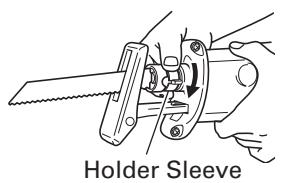

Fig. 6
- (4) Pull the holder sleeve back slightly in the direction of the arrow mark shown in Fig. 6 (in the direction opposite to the arrow marked on the holder sleeve). When you do this, the spring force will return the holder sleeve to the correct position automatically. There is no need to fasten the holder sleeve at this time. (Fig. 6)